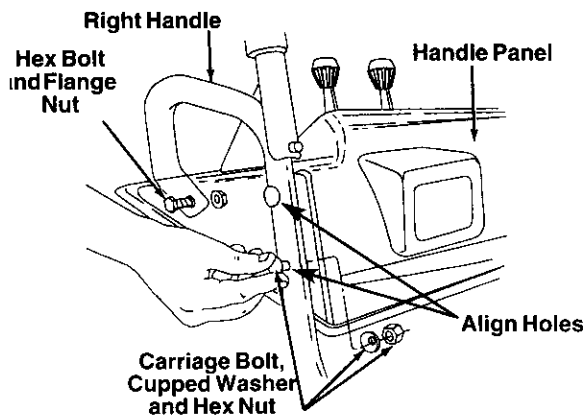

Figure 3
- Place the handle panel in position between the handles so the ends of the curved part of the handles go through the slots in the handle panel. While placing the handle panel, make sure to route chute and chute cable between the handle and the panel keeping the cable on top of the engine. Align the holes in the handle with the holes on the two sides of the handle panel. See Figure 3.
- Attach the handle panel to the handle with two carriage bolts, cupped washers (cupped side against the handle panel) and hex nuts on each side. See Figure 3. You will find these fasteners in group B of the hardware pack . Align the contour of the carriage bolt head with the handle. Tighten the hardware.